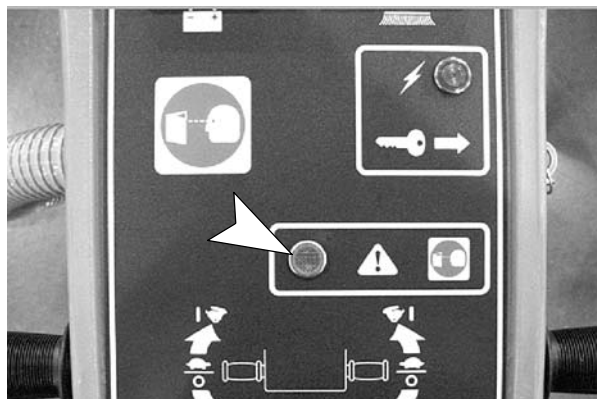

FIG. 13
1. Your machine has an amber carbon brush indicator lamp which will light when the carbon brushes in the pad drive motor need to be replaced (Figure 13). See QUARTERLY MAINTENANCE section.